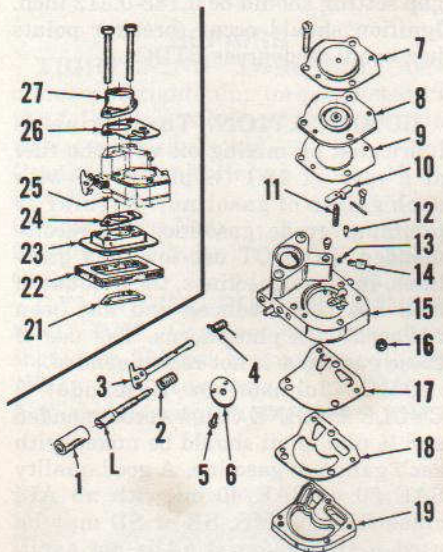

Fig. PR6-1—Exploded view of the Pioneer carburetor used on some models.
Fig. PR6-4—Exploded and cross sectional views of the fuel primer pump. Fuel from tank enters at (T). Short hose connects to normal fuel fitting of carburetor (C). Primer hose (P) connects to the primer fitting (14—Fig. PR6-1) of carburetor.
be down as shown. Use "Loctite" on threads of screw (5) to prevent screw from loosening. Screen (16) can be removed and cleaned or renewed. A felt filter is located in the fuel pick-up in tank. Gaskets (21, 22 & 24—Fig. PR6-1) should be stuck onto insulator block (23) with sealer before installing carburetor. Sealing tube (1) prevents dirt from entering engine around mixture needle. Refer to Fig. PR6-4. Fuel lines should be connected as shown. Primer bulb (9) should be full of fuel before attempting to start engine. The fuel tank is integral with oil tank and the engine crankcase.